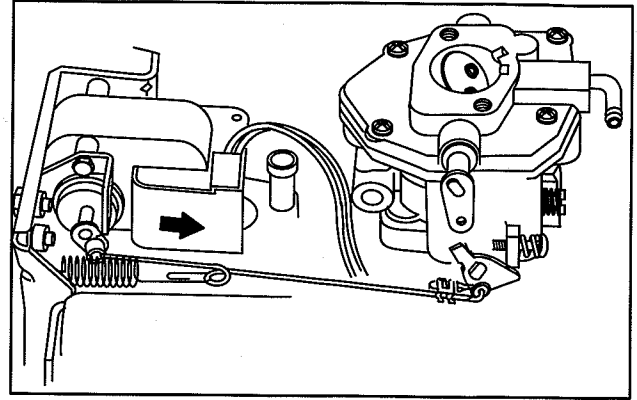

Fig. 32 – Dynamic Check
2. Manually move throttle link to wide open throttle, Fig. 32.